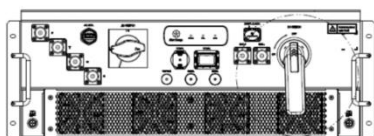

Figure 6-12 DC isolating switch
Step 1: Confirm that the DC isolating switch on the converter is in the OFF state, and confirm that the DC isolating switch on the converter is in the locked state.(locked by the key), as shown in Figure6-12.